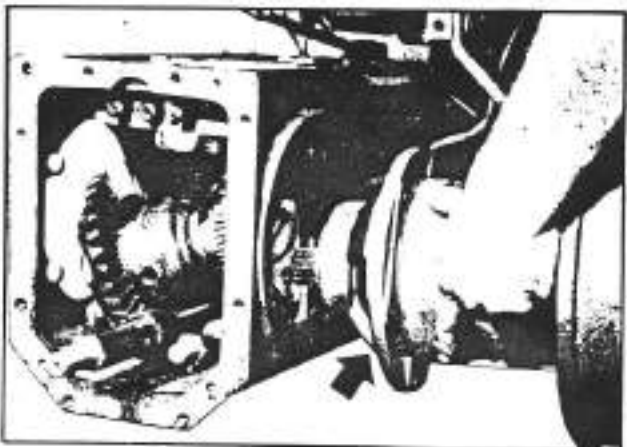

Fig. 3-24. Removal of the wheel hubs
- b. Take off the wheel hubs (see figure 3-24).